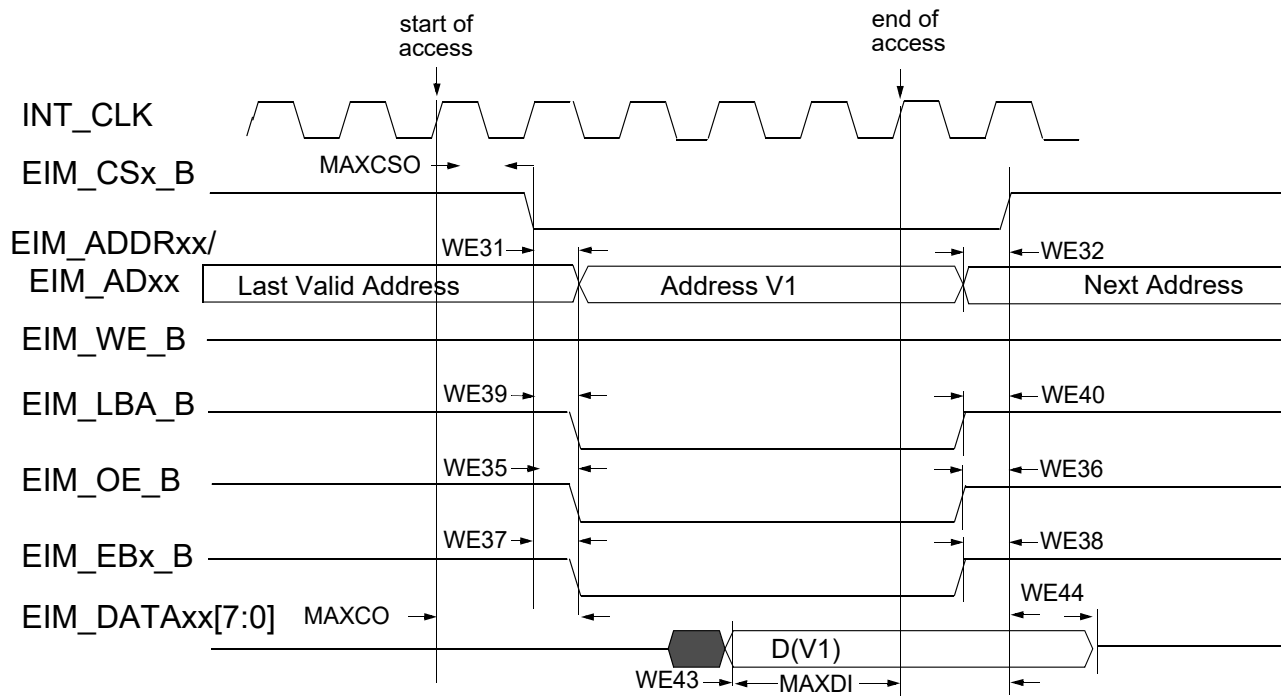
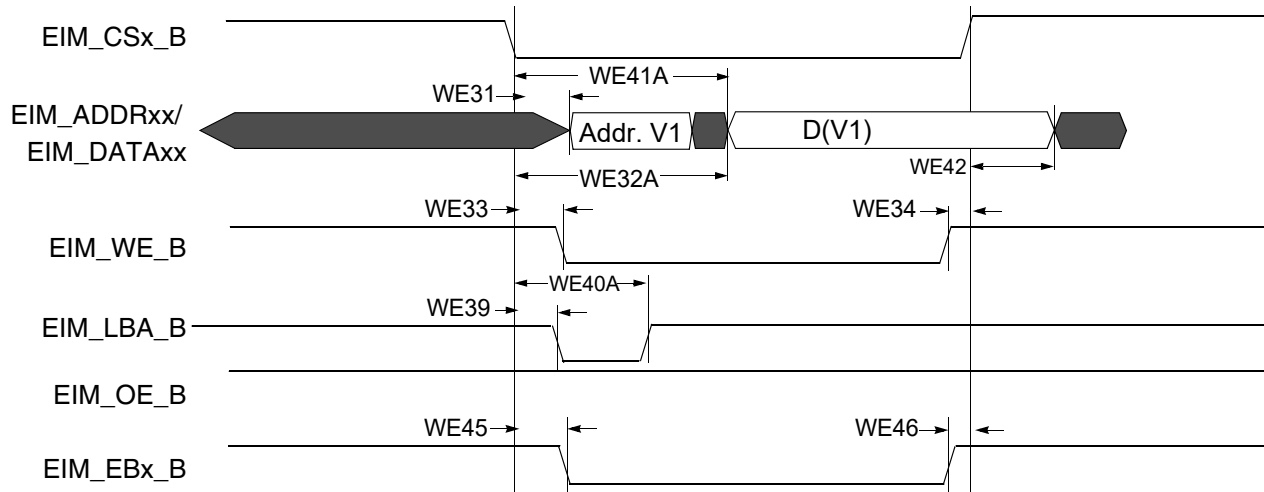

Figure 17. Asynchronous Memory Read Access (RWSC = 5)
Figure 20. Asynchronous A/D Muxed Write Access
Figure 17 through Figure 21, and Table 39 help you determine timing parameters relative to the chip select (CS) state for asynchronous and DTACK EIM accesses with corresponding EIM bit fields and the timing parameters mentioned above.
Asynchronous read & write access length in cycles may vary from what is shown in Figure 17 through Figure 20 as RWSC, OEN and CSN is configured differently. See the *i.MX 6Solo/6DualLite Reference Manual (IMX6SDLRM)* for the EIM programming model.